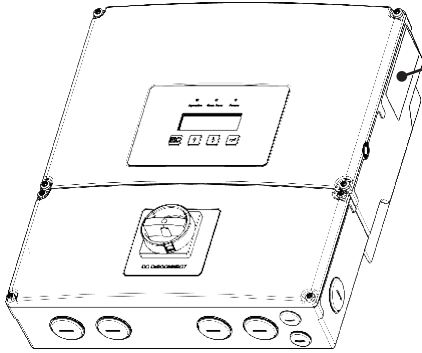

**Figure 7: Lockable DC Disconnect**
(5) Mounting Bracket - The inverter ships with a mounting bracket that allows for easy installation of the inverter to a wall.
(6) Lockable DC Disconnect - The DC disconnect is lockable and allows DC power to be disconnected from the inverter. See figure 7 below.
(7) Wiring Box Cover - This is the cover for the wiring compartment. The removal procedure is shown on page 29. Please note the DC disconnect must be in the OFF position before this cover can be removed.
(8) Wiring Box - This is the compartment where all the wiring for the inverter inputs and outputs plus the RS-485 communication is done.
(9) Conduit Opening - There are six - 1" conduit openings and two - 1/2" conduit openings. Each conduit opening comes fitted with a conduit plug that should be removed before installing conduit fittings. Conduit fittings need to be water tight with a NEMA 4, 4X, 6, or 6X rating.